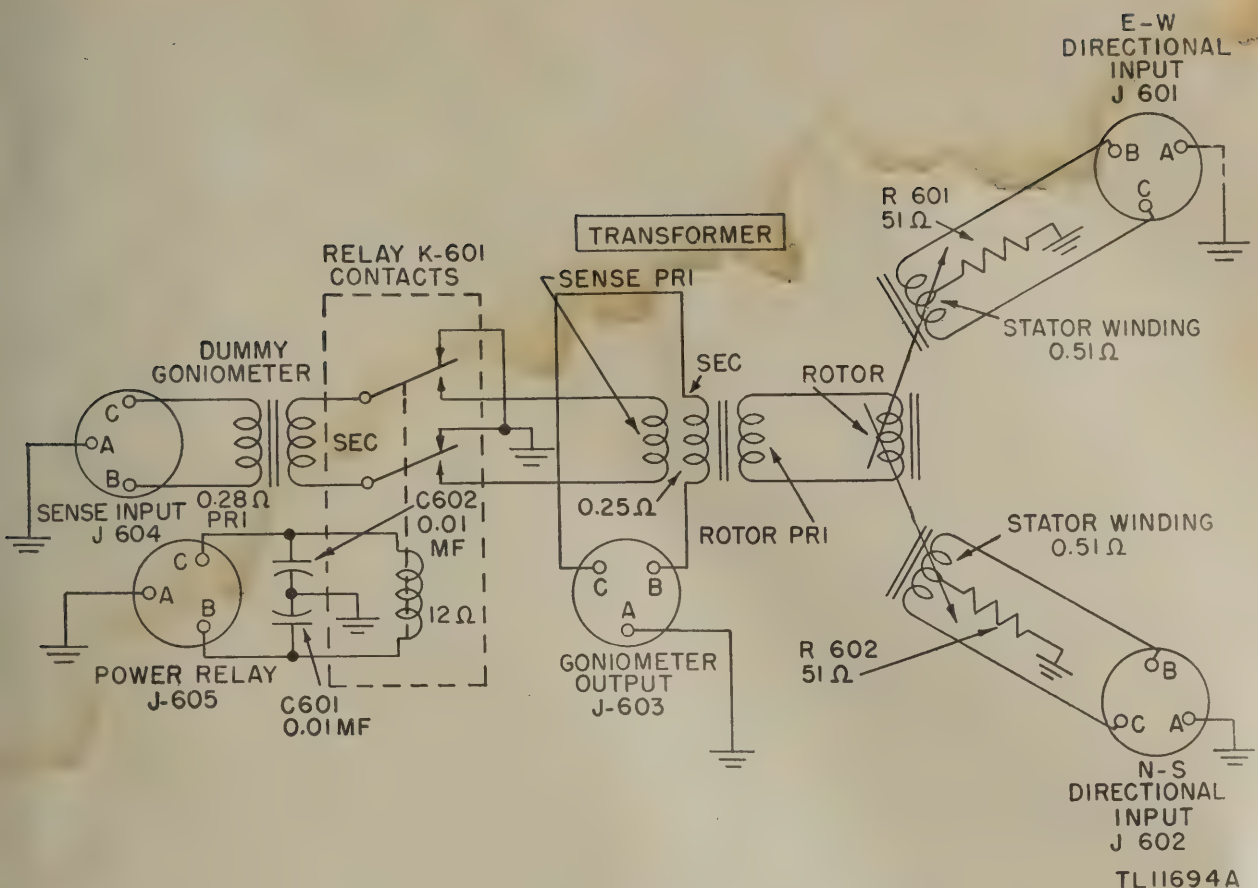

Figure 145. Goniometer MC-412-A, schematic diagram.
*b.* GONIOMETER MC-412-A. A rotary winding, driven by the bearing indicator motor, revolves close to two stationary windings (*a* above). Thus, the instantaneous voltage across the rotary winding is a function of its position with respect to the stationary windings. The rotary winding is connected to one of two primary windings on the goniometer output transformer (fig. 145). The output winding of the dummy goniometer is connected to the second primary winding on the output transformer. With the standby-D. F.-SENSE switch at D. F., the goniometer relay opens, the winding connected to the rotor is active, and the
that differ in length, so that there is a phase difference between the output voltages of the lines. By properly choosing the line lengths, and by combining the two out-of-phase voltages in a Junction Box JB-91-A, a third voltage is obtained. When applied through a dummy goniometer (fig. 145) which is designed to produce the same phase shift in the sense voltage as the goniometer produces in the Adcock voltages, this third voltage will be of proper phase (over the normal frequency range of the radio set) to combine with the rotor output (figure 8 pattern) and produce a resultant pattern that can be used to determine the true azimuth bearing. The exact sense pattern will depend on the relative amplitudes and phase of the sense and D/F antenna outputs. In figure 138A the sense output is considerably lower than the D/F output; in B the sense output is almost equal to the D/F output; in C a cardioid pattern is obtained because the sense and D/F outputs are equal; and in D the sense output is greater than the D/F output.
#### 151. Goniometer MC-412-A (fig. 145)